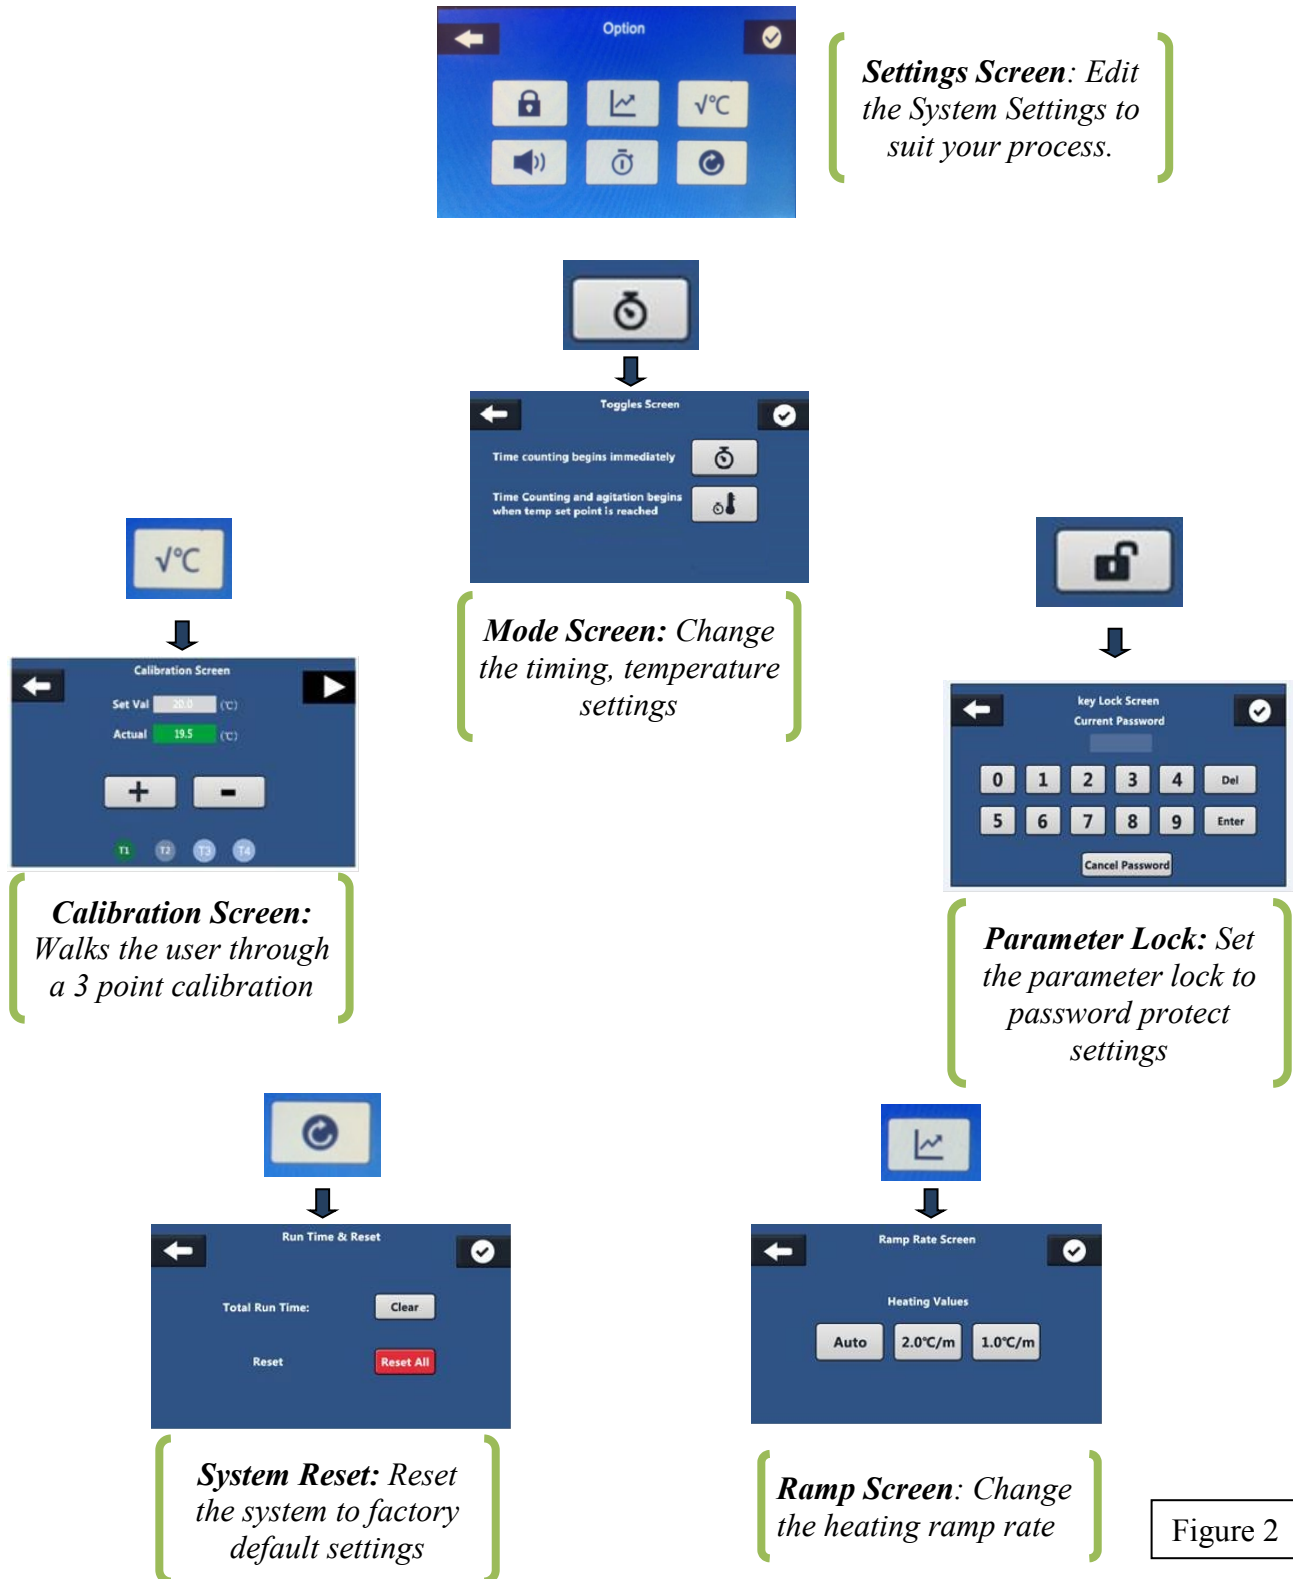

Figure 2
4.2 Options Screen Navigation (Figure 2) – Navigation and Screen Overviews